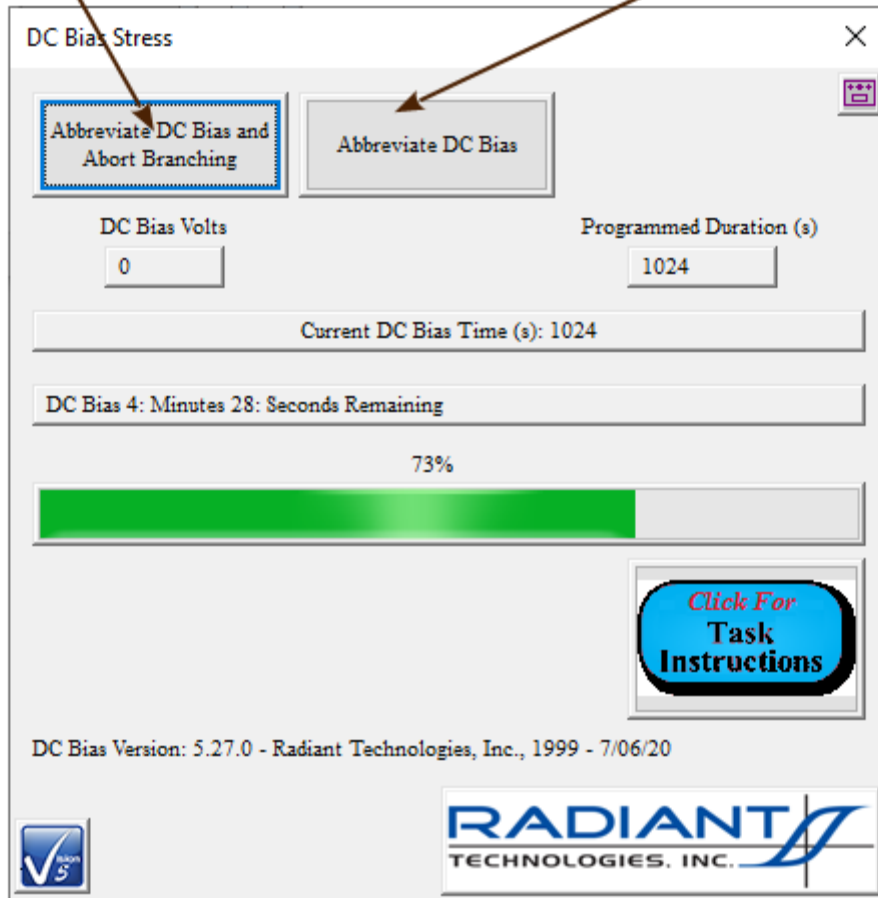
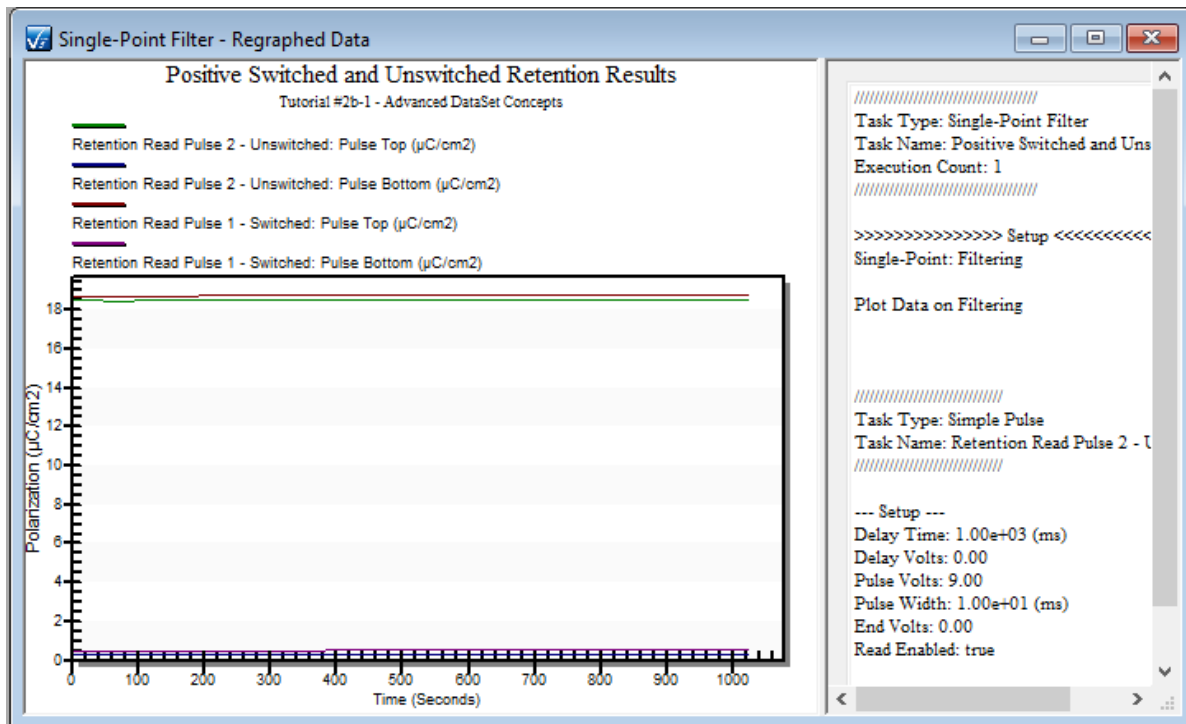

Figure 22 - Retention Delay Period - DC Bias Task Execution.
Figure 23 - Retention Execution Data.
- Once the Pause Task is acknowledged, operation will proceed automatically. Two windows will appear during the execution. A progress dialog will show the duration of the DC Bias signal (**Figure 22**). This window will appear for increasing lengths of time as the Retention reiterates. Note that the final point will be measured after a delay of 2048 seconds. It is not until this stress/measure cycle that the Branch Task detects that the current delay time is greater than 2000 seconds. As with the Pause Task execution, the Branch Looping can be terminated by clicking *Abbreviate DC Bias and Abort Branching*. By clicking *Abbreviate DC Bias*, the current delay period will terminate. Further execution will proceed normally. The window can be moved to unmask the Filter window below it (**Figure 23**). The filter window shows the measurements, with a new point being added at each loop iteration.